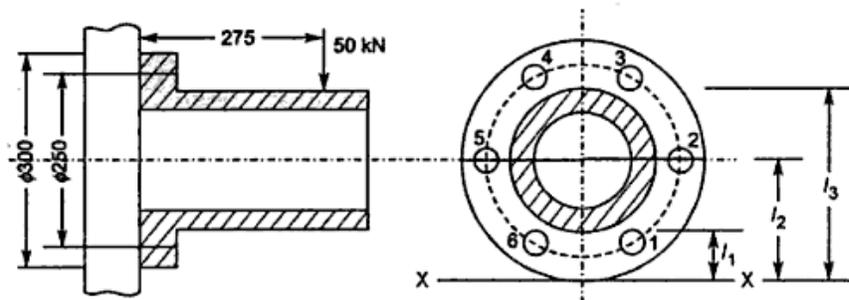

Figure 2
4. A bearing shown in Figure 2 is fastened to a frame by 6 bolts spaced equally on a 250 mm bolt circle, of which 2 bolts are positioned on the horizontal line. The bearing flange diameter is 300 mm and a load of 50 kN is applied at 275 mm from the frame. Determine the size of the bolts. What are conditions required for the arrangement of the bolts to have the maximum strength. Assume that the bolt is made of C20 steel having yield strength of 245 MPa and Factor of safety 3.